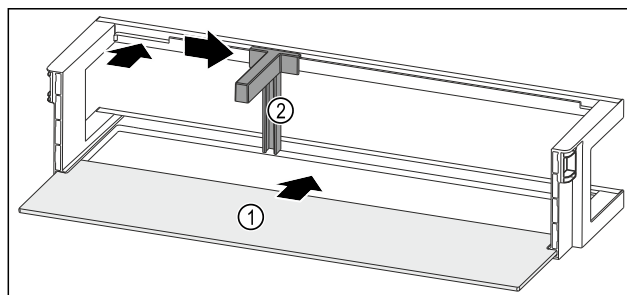

Fig. 255 Door rack with shelf
- Push the shelf Fig. 255 (1) into the side recesses.
- Insert the bottle holder Fig. 255 (2) in the recess.
- Push the bottle holder Fig. 255 (2) to the desired position to the side.